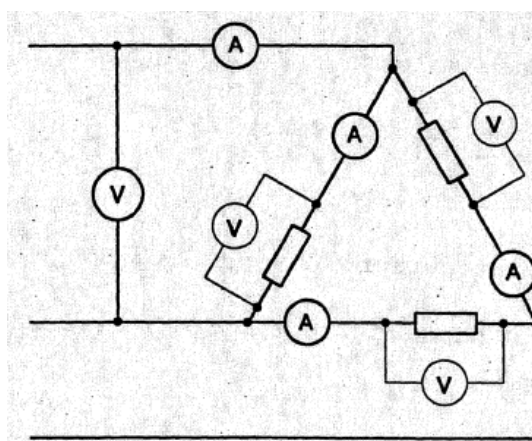

Figure 9 - The voltage and current distribution in a delta connection
- 26 If a 415 volt three phase supply is correctly connected to a delta connected device the resulting voltage and current distribution is as shown in Figure 9.